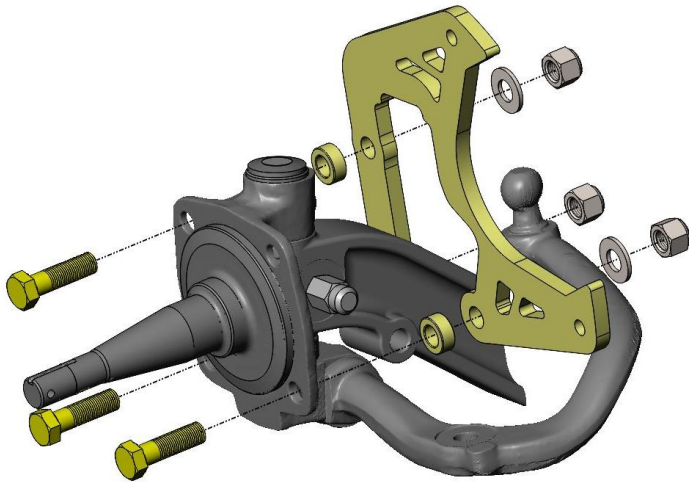
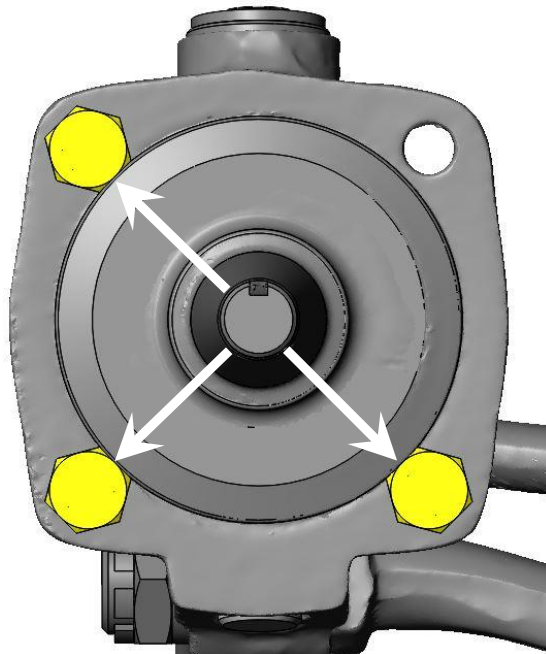

Figure 2a – Caliper Bracket Installation (Driver Side Shown)
Figure 2c – Bolt Head Possible Material Removal (Driver Side Shown)
5. Position the Caliper Mounting Bracket against the spindle. All 3 mounting holes will require the use of provided spacers that measure 0.875" OD x 0.510" ID x 0.355" Length. Insert these bushings between the bracket and the spindle and assemble using the 1/2"-20 x 1.750" Grade 8 Hex Head Bolts and 1/2"-20 Nyloc Lock Nuts. A washer is provided for nut side of the bolt along with the nut. The heads of the bolts will have to be indexed so they clear the machined step in the spindle. **NOTE: It could be possible that you may have to take a very small amount off one side of the bolt head to get them to set completely flat (See Figure 2c).** All hardware may be torqued to 85 ft/lbs. Figures 2a, 2b, and 2c below shows the proper assembly.